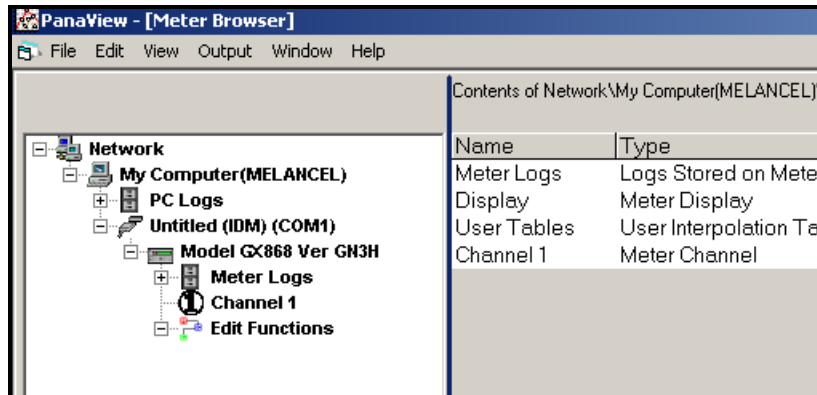

Figure 35: *New Meter Browser* with Meter Branch
3. Then expand the meter tree as shown in Figure 35.